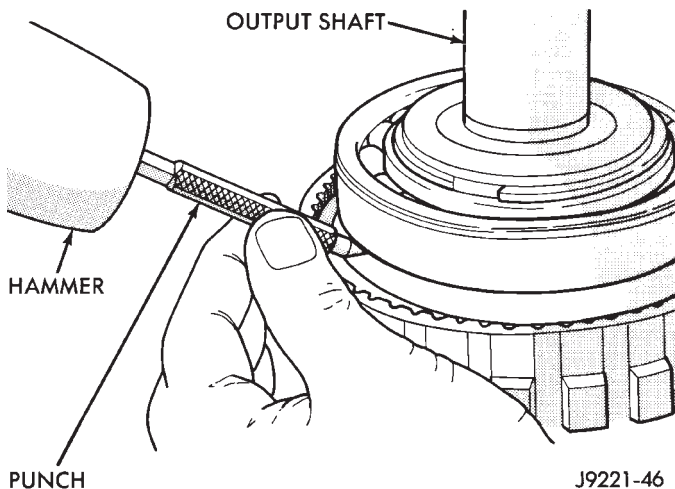

Fig. 207 Marking Annulus Gear And Output Shaft For Assembly Alignment
(9) Mark annulus gear and output shaft for assembly alignment reference (Fig. 207). Use punch or scriber to mark gear and shaft.